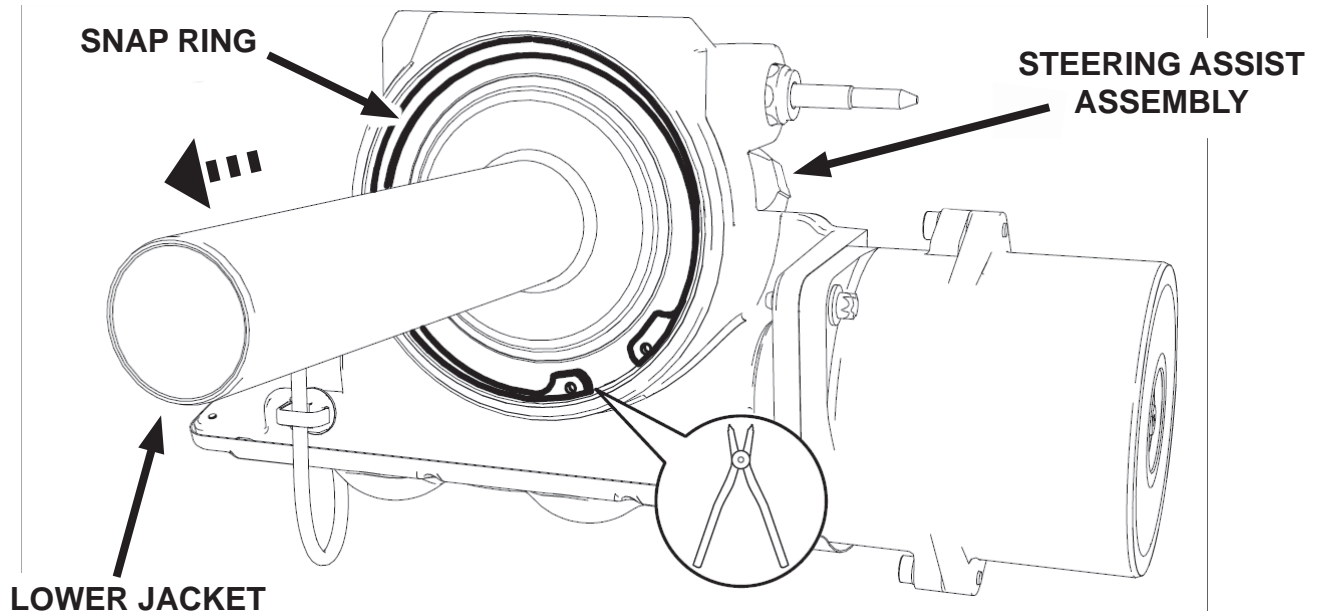

FIGURE 10
14. Remove the snap ring using Rotor Clip® RP-900 Ratchet and Grip ring pliers or equivalent. Remove the lower jacket. See Figure 10.